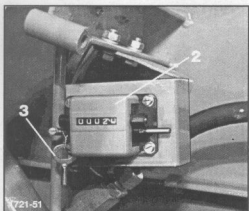

Figure 23
To keep a correct count of ejected roll bales, the bale counter 2 must be set to 0 with the supplied key 3 before operation (Figure 23).